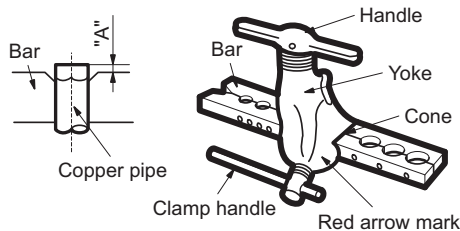

**Fig. 47 — Pipe Cutting**
- a. Cut the pipe, with a pipe cutter, at 90 degrees (see Fig. 47).